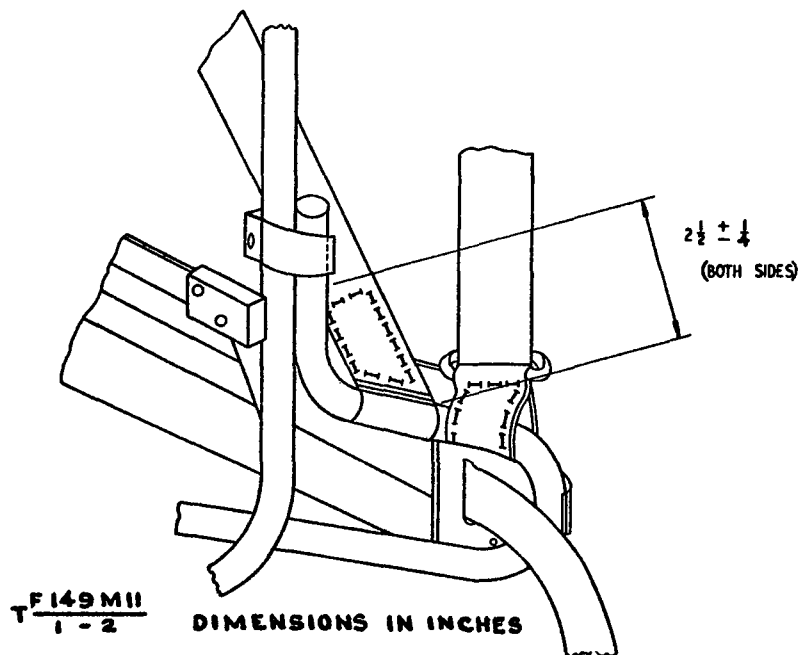

Fig 2 - Current production assembly
- c. It should be noted that carrying out this instruction causes the straps to become part of the frame whereas they are catalogued as part of the webbing. In current production, provision is made for the straps to be fitted in the same position as detailed below but removable from the frame (see Fig 2).